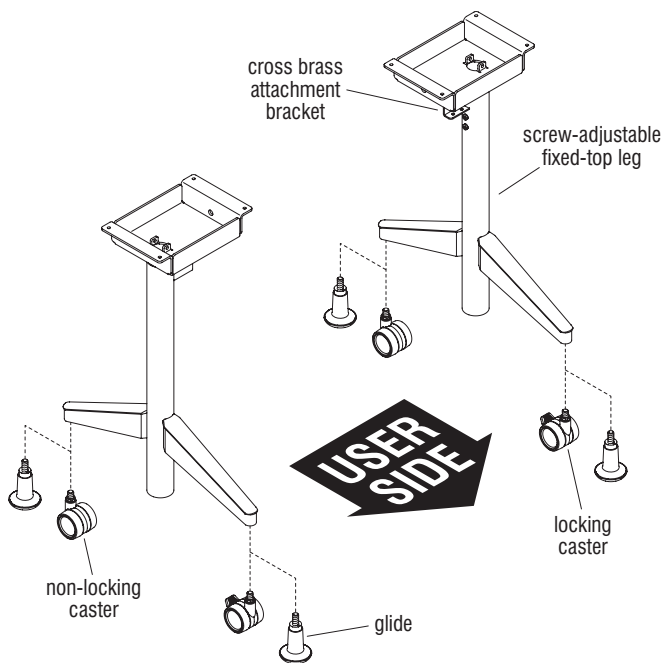

Figure 1 - (Leg Kit Item #HSF24)
2. Carefully stand the two screw-adjustable fixed-top legs to the upright position with cross-brace attachment brackets facing each other as illustrated. Orient the legs so the cross-brace attachment brackets on each leg post are inline to each other (Figure 1 & Detail A).
4. Pick which side of the legs will be designated as the eventual user side of the table. Locate the locking and non-locking casters. Locking casters are to be installed to the front, user side of each leg, and non-locking casters are to be installed to the rear of each leg. Use a  $\frac{3}{4}$ " open end wrench to tighten casters to the foot of each leg (Figure 1).
6. Thread the stems of two glides into the threaded inserts at the underside of each foot by hand. Twist the glides in clockwise, fully to the bottom of the feet (Figure 1).